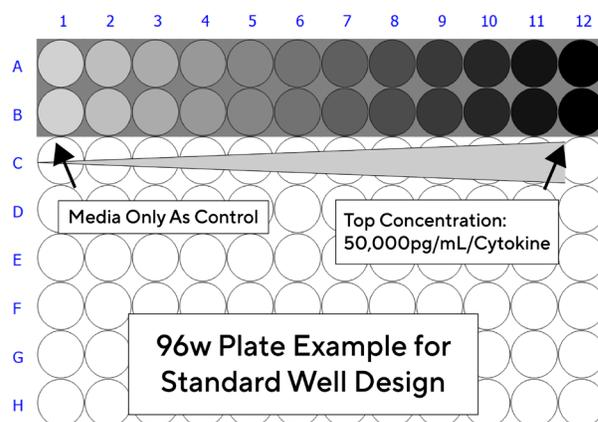
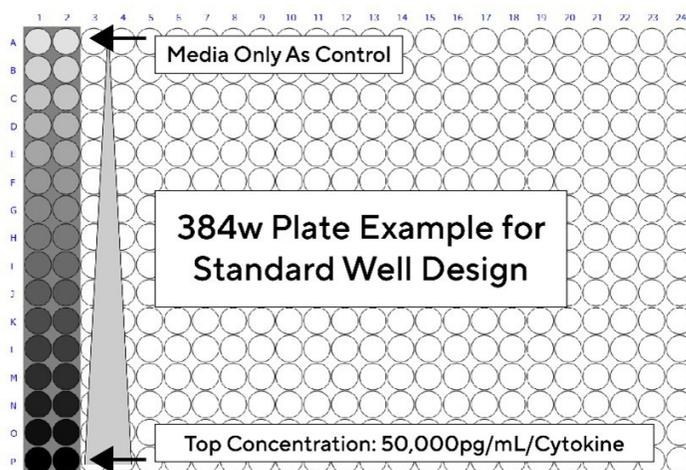

Figure 5. Recommended 96-well plate layout
Figure 6. Recommended 384-well plate layout
7.1 Design assay plate layout (**Figure 5** for 96-well plate and **Figure 6** for 384-well plate). A template with the recommended standard design is already provided in the kit USB drive.
Note: Wells in white in Figure 5 and 6 are wells to contain your samples.
- For 96-well plates see **Figure 5**.
- For 384-well plates see **Figure 6**.**Note:** For samples with low cell density, adjustment to sip times may be required in the iQue Forecyt® Protocol section. See General Guidelines → Troubleshooting Low Cell Density → **3. Optional Protocol: Adjust Sip Time to collect sufficient cell events**.